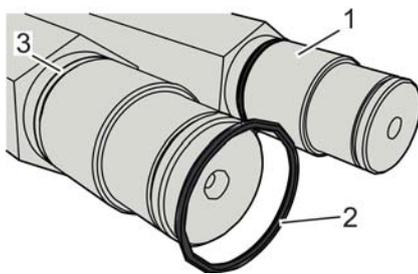

Fig. 129: Positioning the O-rings
1. ➔ Insert the lightly lubricated O-rings (Fig. 129/2) into the grooves (Fig. 129/3) on both ends of the cutter block shafts.